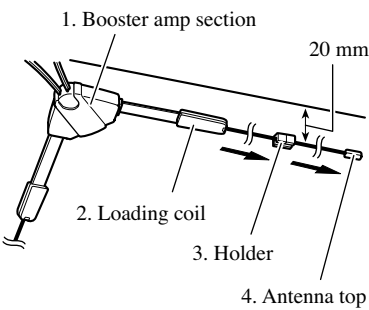

Fig. 11
5. Sticking antenna elements to a window. (Fig. 11)